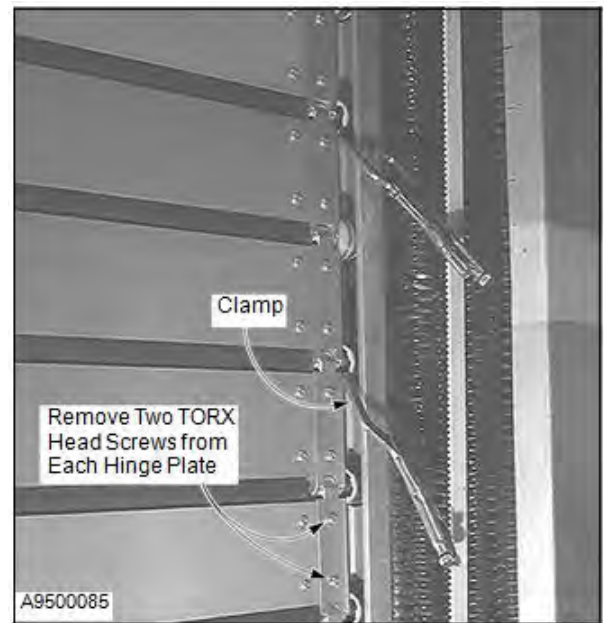

Figure 66
4. Once the door is positioned, clamp or bracket both sides of the door to the vertical track. Position clamps or brackets along both edges of the door. (See Figure 66 & 67.)
6. Remove the TORX head screws from the hinge plates along both sides of the roller to be removed. (See Figure 66.)